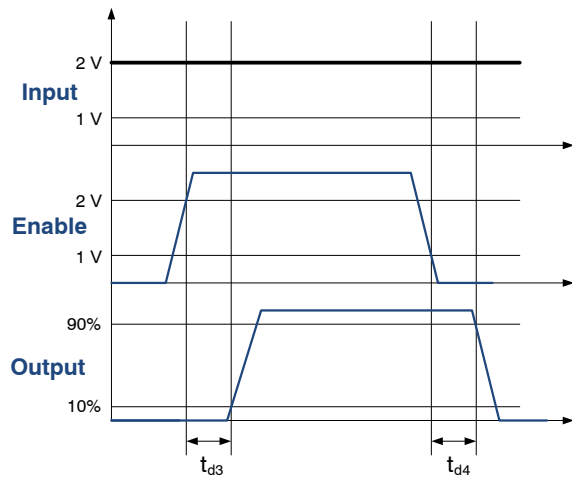
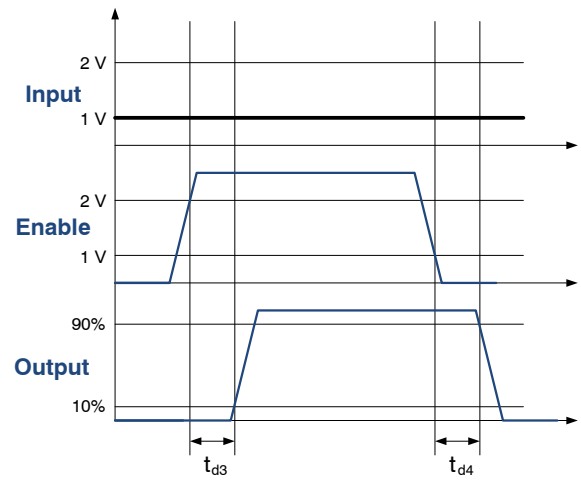
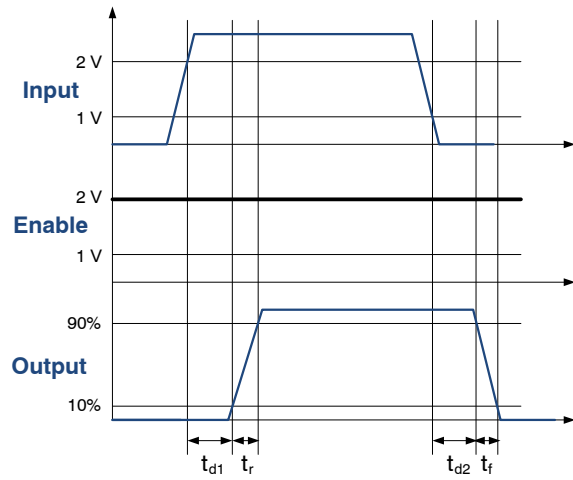
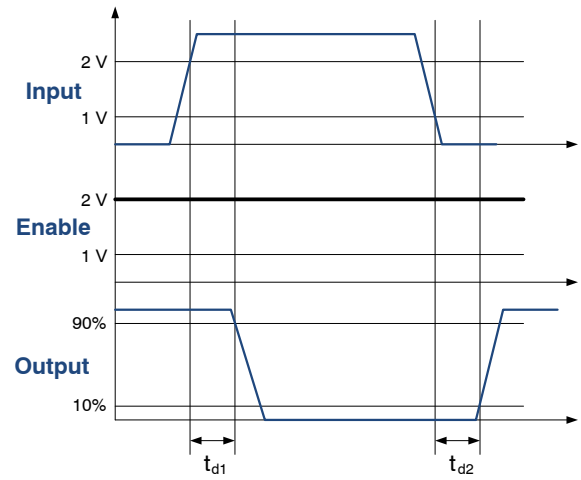

Figure 2. Enable Function for Non-inverting Input Driver Operation
Figure 3. Enable Function for Inverting Input Driver Operation
Figure 4. Non-inverting Input Driver Operation
Figure 5. Inverting Input Driver Operation
5. See timing diagrams in Figure 2, Figure 3, Figure 4 and Figure 5.